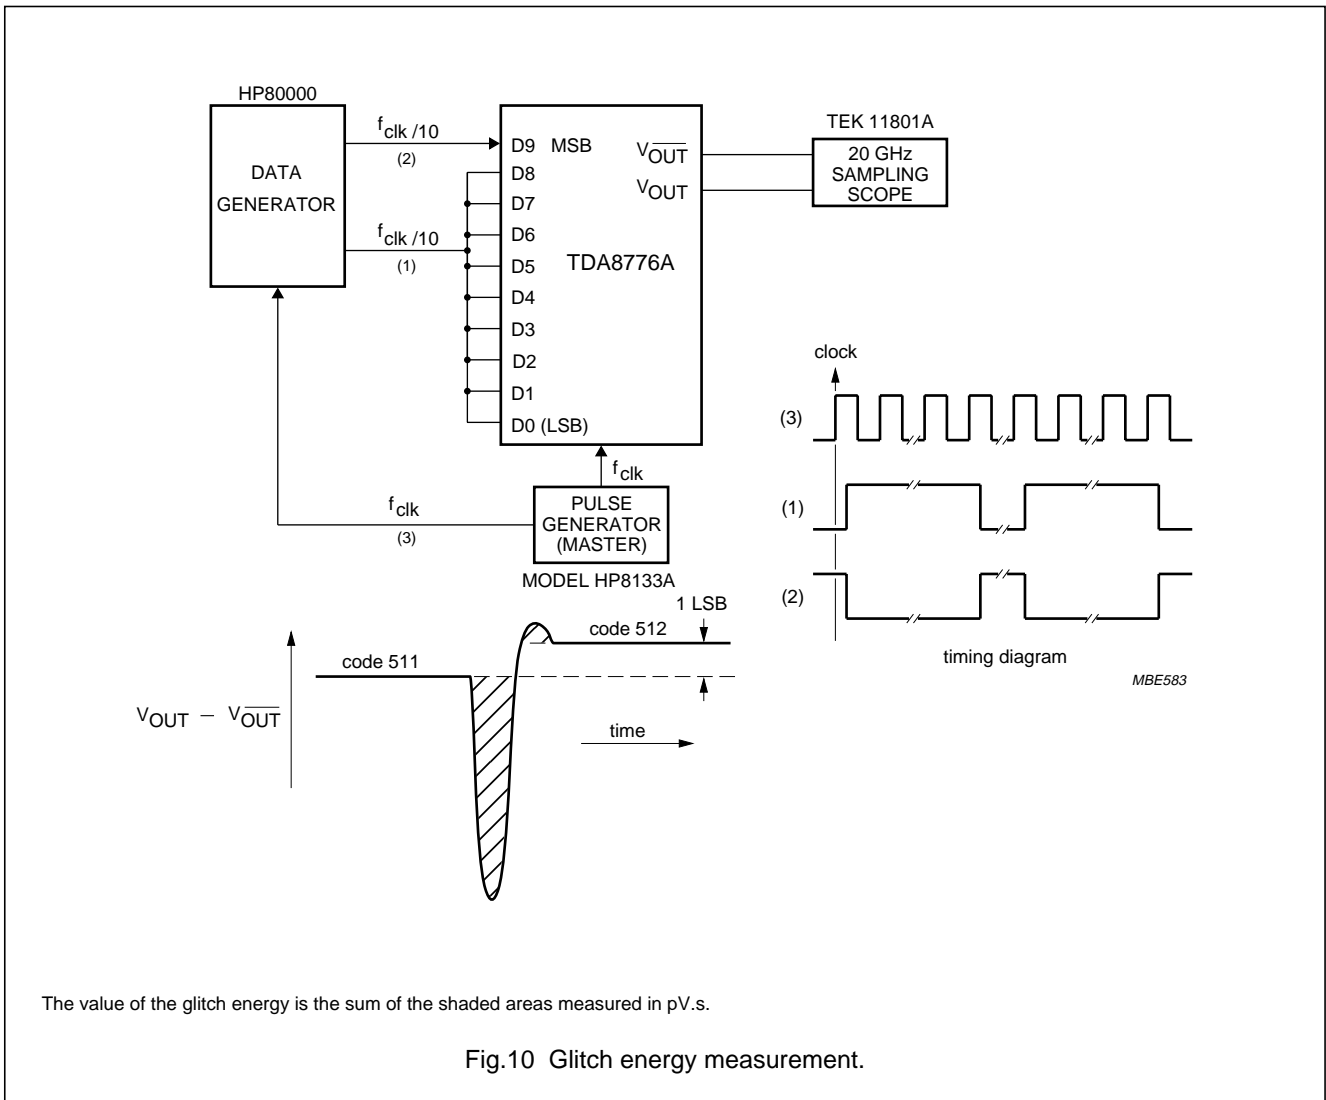

Fig.10 Glitch energy measurement.
Output transients; glitches (<math>f_{\text{clk}} = 1000 \text{ MHz}</math>); note 7; see Fig.10
- The definition of glitch energy and the measurement set-up are shown in Fig.10. The glitch energy is measured at the input transition between code 511 to 512.